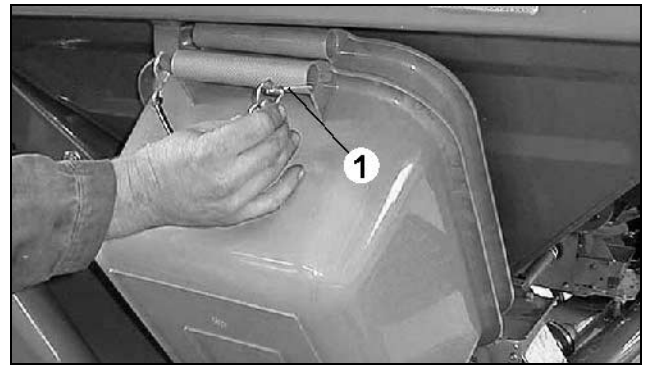

Fig. 68
- The calibration trays (Fig. 68/3) are held in a retainer and are secured with a clip pin (Fig. 68/1).